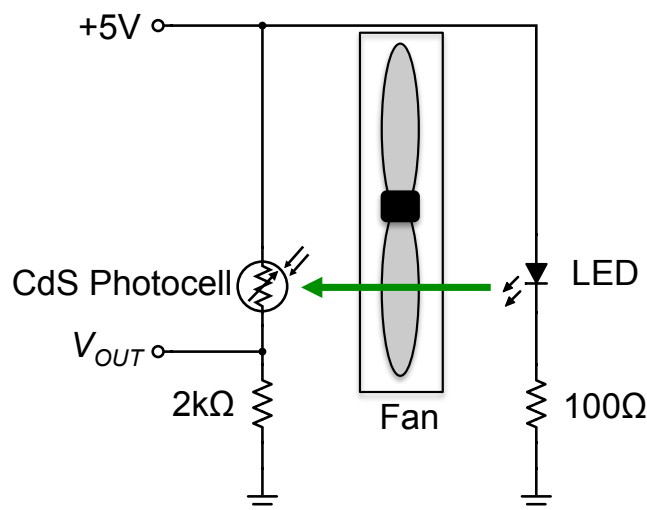

Figure 1 - A schematic drawing of the optical tachometer. (The +12V connections for the fan have been omitted.)
1. Sketch the schematic shown in Fig. 1 in your lab notebook.
3. Using the breadboard, construct the CdS photocell voltage divider circuit shown on the left side of Fig. 1. Use a multimeter to test it and make sure it works.
4. Construct the LED circuit shown on the right side of Fig. 1. Bend the LED and CdS photocell, such that the lens on the top of the LED is facing the CdS photocell. Make sure you leave space for the fan to fit in between. Test it to make sure it works.
7. Place the fan in between the photocell and LED, so that the light from the LED passes through the blades to the photocell, as shown in Fig. 1. (Scotch tape is available to hold the fan in place.)